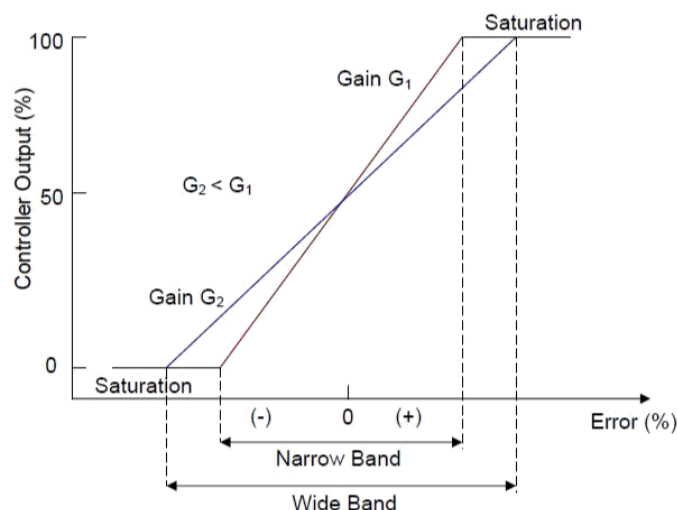

Fig. 2.9 Proportional controller mode output vs. error.
The equation (8) represents reverse action, because the term $K_p e_p$ will be subtracted from p_0 whenever the measured value increases the above setpoint which leads negative error. The equation for the direct action can be given by putting the negative sign in front of correction term i.e. $-K_p e_p$. A plot of the proportional mode output vs. error for equation (8) is shown in Fig.2.9
In Fig.2.9, p_0 has been set to 50% and two different gains have been used. It can be observed that proportional band is dependent on the gain. A high gain (G_1) leads to large or fast response, but narrow band of errors within which output is not saturated. On the other side a low gain (G_2) leads to small or slow response, but wide band of errors within which output is not saturated. In general, the proportional band is defined by the equation: